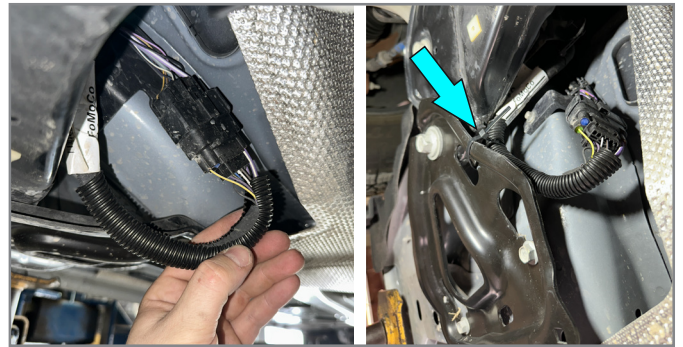

Fig. 2
2. Install corrugated split tubing (item D) over factory wires. Secure it to the frame using a cable tie (item E) as shown in Fig. 2.